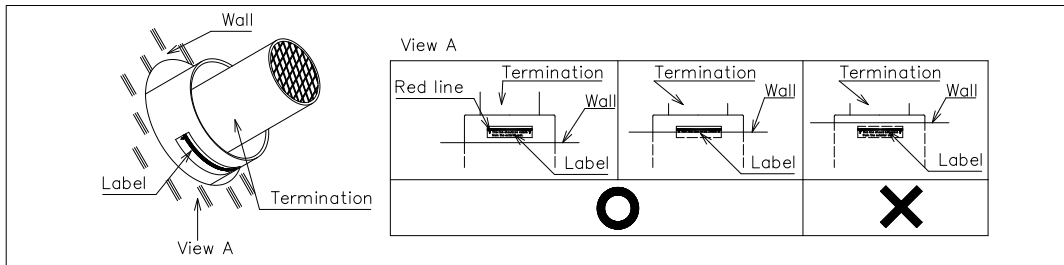

Fig.6-1 Position of the label with red line
3. Check wall thickness where the vent system passes through, and select suitable parts according to Table 2. In standard case, connect CVT-S (termination) and CWF or CWF-90ELB directly. In the case with thicker wall, insert CVP-4STR (Straight), CVP-11ADJ (adjustable) or CVP-16ADJ (adjustable) between the two parts. When using Adjustable, open the hole with 1/8in diameter and fasten them by appropriate screw (ex. UNF8). Adjust the length of the combination of the parts so that the end of the air intake part of CVT-S (termination) protrudes more than about 0.8" from the wall. Make sure the label with red line on the air intake of CVT-S (termination) should be downward, so that the red line of the label can be seen from the exterior wall. (See Fig 6-1)
4. Check wall thickness where the vent system passes through. Select suitable parts according to Table 2. In standard case, no parts should be needed. In the case with thicker wall, replace Part D to CVT-S2 (straight bird screen-thick wall). To fix horizontal adjustable mechanism, open the hole with 1/8in diameter and fasten them by appropriate screw (ex. UNF8). Adjust the length of the combination of the parts so that the end of the air intake part of the Termination protrudes about 0.8” from the wall. Make sure the label with red line on the air intake of termination should be downward, so that the red line of the label can be seen from the exterior wall. (See Fig 6-1)